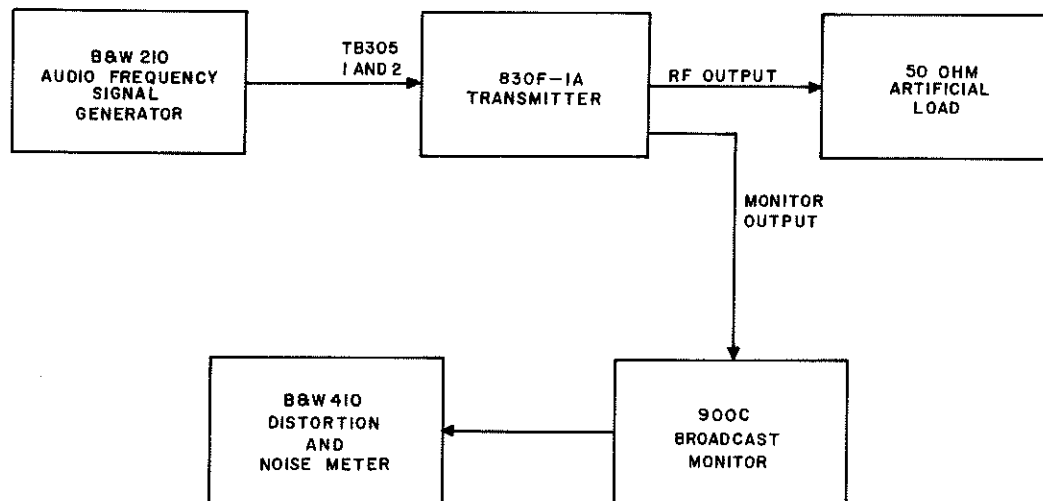

Figure 5-2. Distortion Test Setup
a. Refer to figure 5-2. Connect an audio frequency signal generator, such as a Barker & Williamson Model 210 to the exciter audio input, terminals 1 and 2 of TB305. (Disconnect the station console audio input leads when making this connection.) Connect a distortion and noise meter, such as a Barker & Williamson Model 410, to the broadcast monitor. Connect a 50-ohm artificial load to the r-f output connector located on top of the transmitter cabinet. Turn on the transmitter.